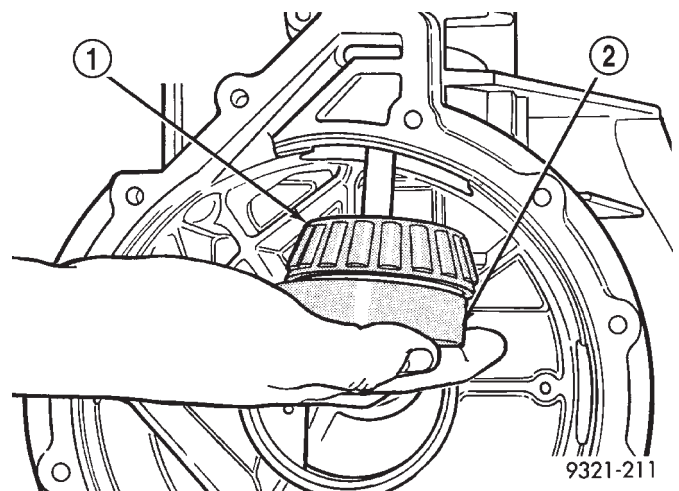

Fig. 392 Installing Gauge Disc with Front Transfer Shaft Bearing
(4) Install gauge disc and bearing into case using gauge disc rod Tool 6549-4 (Fig. 392).